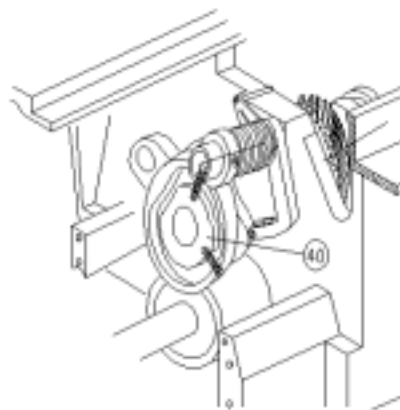

FIG. 19
Turn the hand-wheel so that it moves the second dowel pin of the tension cam (40, FIG. 19), in the direction of rotation, after previously fixing the cam in a vertical position with respect to the plane of the machine. With the cam (40) in this position bring the second dowel pin, in the direction of rotation, of the arm. Temporarily block the dowel pin in this position as this adjustment serves as preparation for synchronizing. Mount the upper hook